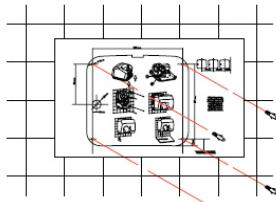

Fig. 6
1. Drill four  $\varnothing$  8 mm ( $\varnothing$  0.31") holes using the supplied template. Clean up the holes once they have been made. Insert the fourplugs until they are flush with the surface (see figure 6).